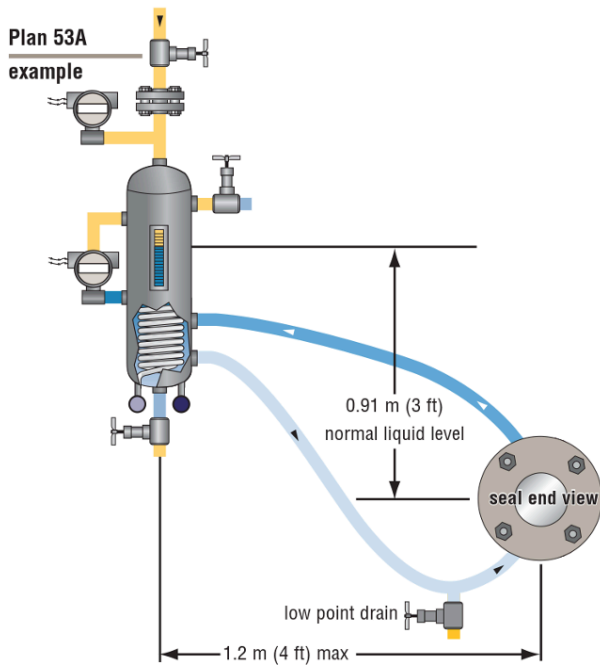

Figure 7: Piping Plan 53A mounting dimensions example
- Generally, the reservoir shall be mounted such that the normal liquid level (NLL) is a minimum of 0.9 m (3 ft) above the seal centerline, and the reservoir centerline is a maximum of 1.2 m (4 ft) horizontally from the pump centerline as shown in Figure 7.